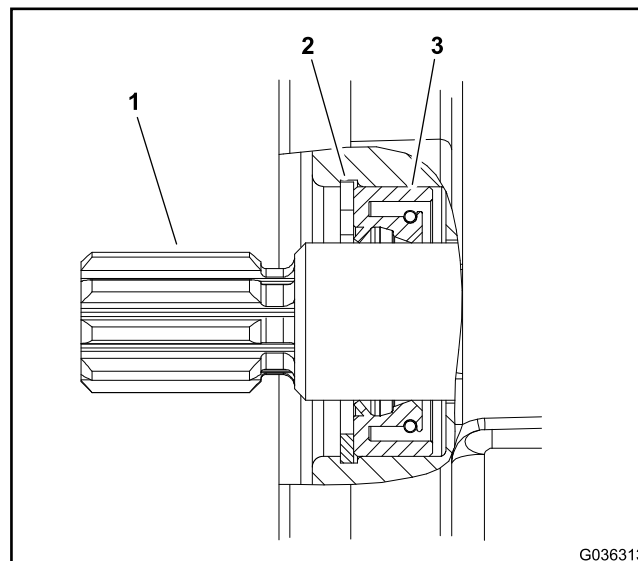

Figure 139
11. Carefully remove the shaft seal from the front plate (Figure 139). Note the orientation of seal lips during removal. Discard the seal.
2. Install new shaft seal in the front plate. Note the orientation of seal lips during installation (Figure 139).